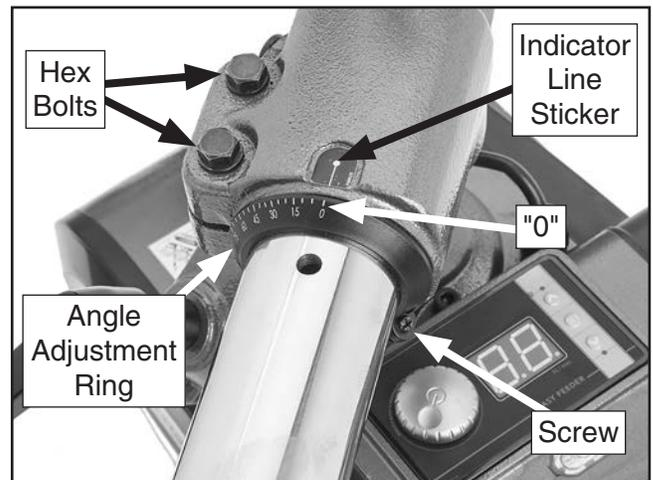

Figure 15. Location of "0" on adjustment ring.
- Adjust rollers parallel to table top, then tighten hex bolts shown in **Figure 15**.
- Place indicator line sticker included with angle adjustment ring to upper elbow-joint, as shown in **Figure 15**.
- Position angle adjustment ring so it just contacts upper elbow-joint, align "0" on ring with indicator, then tighten screw (see **Figure 15**).